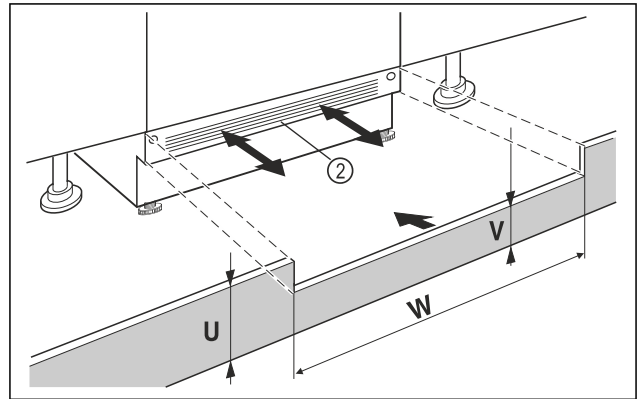

Fig. 98 Example illustration
- ▶ Put on the appliance base cover Fig. 98 (2) but do not fix it in place yet.
- ▶ If the base panel is visible Fig. 98 (2), pull it forwards so that the front edge of the ventilation grille and the unit base panel are level.
- ▶ If the base panel is concealed Fig. 98 (2), push it all the way back.
- ▶ Ensure that the ventilation slots are completely free: If necessary, cut the height of the unit base panel Fig. 98 (U) to size!
- ▶ Adjust the web height Fig. 98 (V) under the appliance base panel Fig. 98 (2) along the niche width Fig. 98 (W).